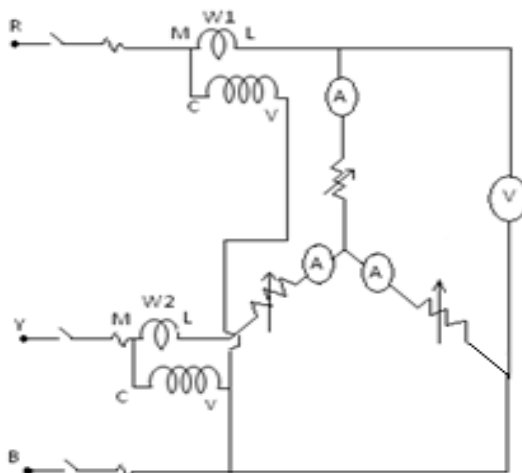
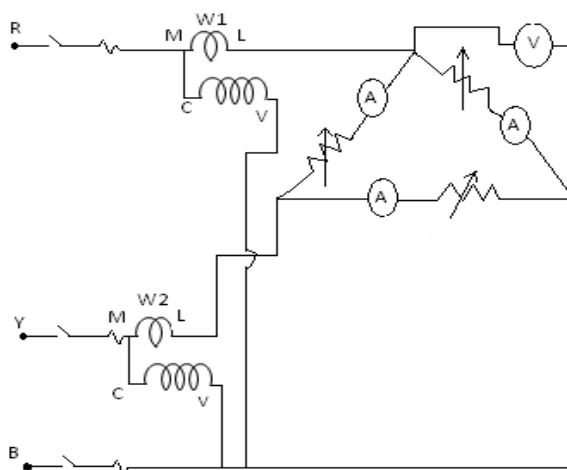

Fig. 1 Star connected
Fig. 2 Delta connected
1. Connections are made as shown in the circuit diagram (Fig.1 or Fig. 2).